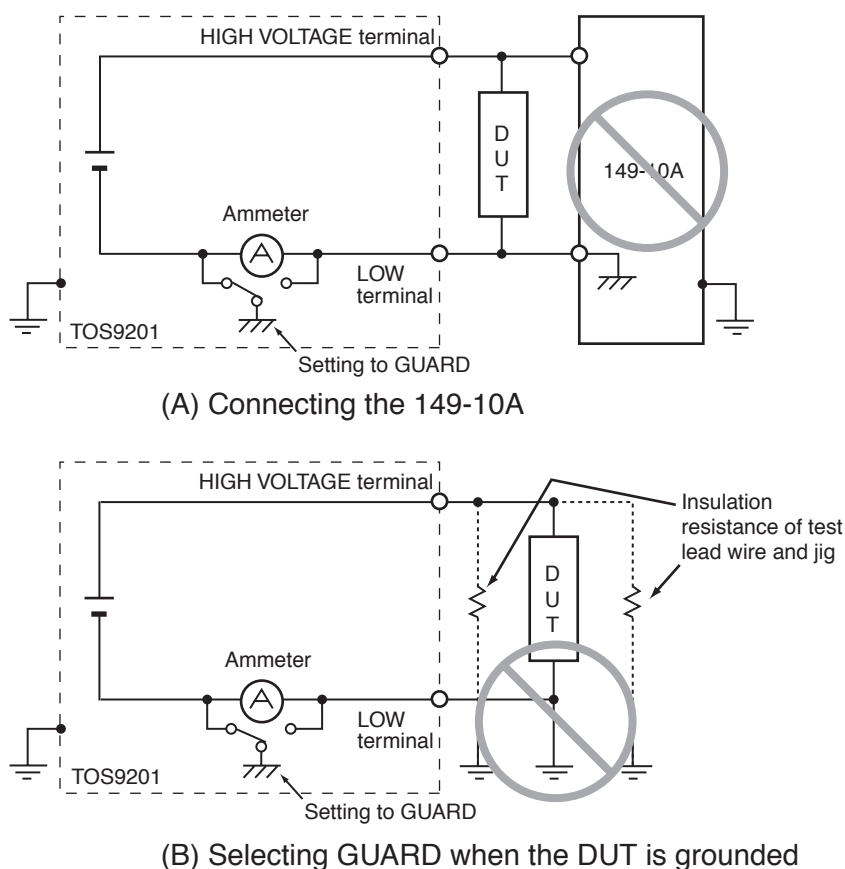

Fig.3-2 Dangerous connections
- If it is not known whether a DUT or jig is grounded, never select GUARD. If GUARD is selected with a DUT grounded, the ammeter will be short-circuited, disabling measurement and posing a grave danger. See Fig. 3-2 (B).
- When GUARD is selected, do not connect the tester to devices grounded on a single side, such as Kikusui's high-voltage digital voltmeter 149-10A or current calibrator TOS1200. Otherwise, the ammeter will be short-circuited. See Fig. 3-2 (A).